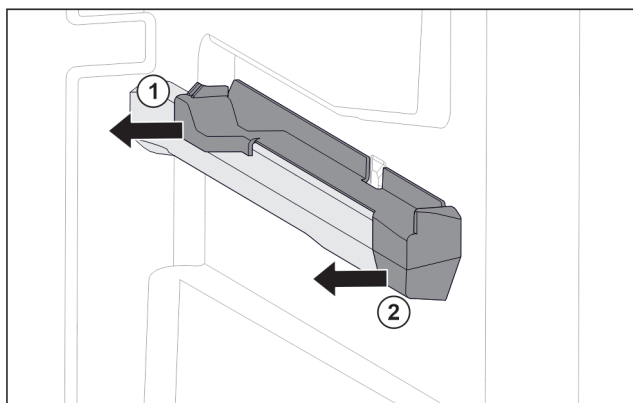

Fig. 125 Attachment on the right moulded rib
- Pull off attachment at the back sideways. *Fig. 125 (1)*
- Pull off attachment at the front sideways. *Fig. 125 (2)*